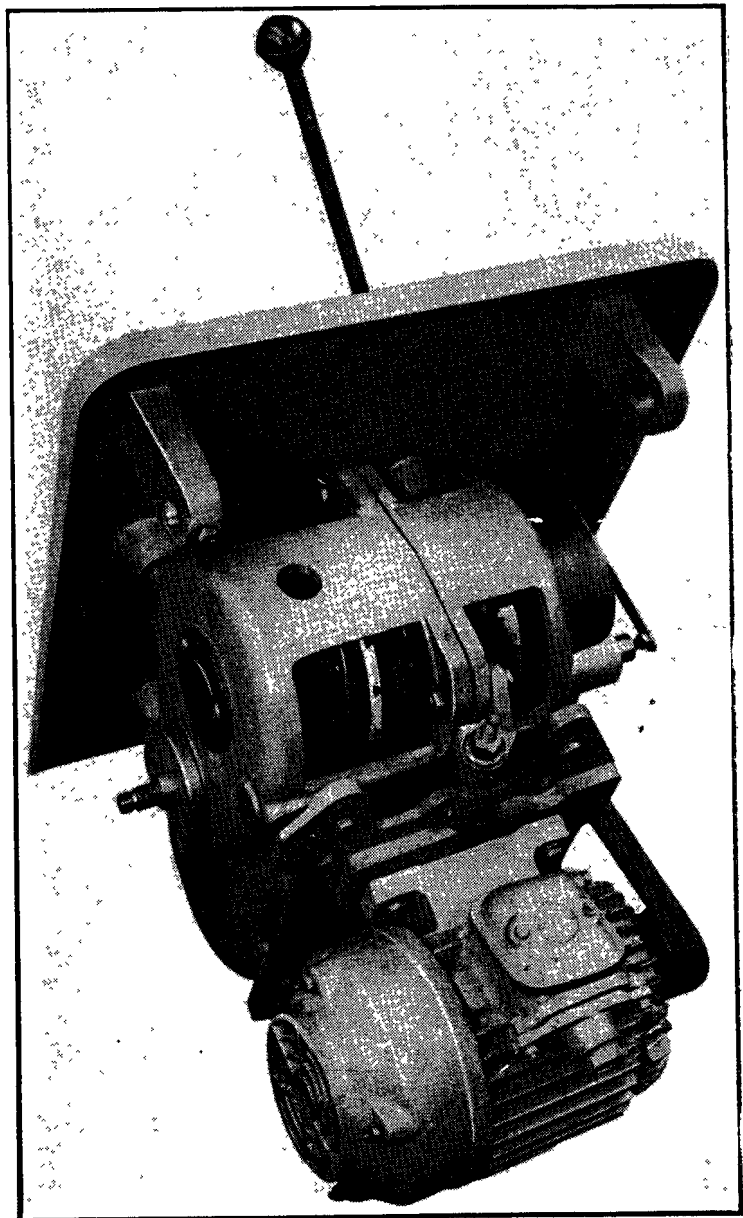

Fig. 42.
c) Remove the set screw on the face of the belt tension eccentric, and the set screw with a lock nut on one of the door brackets, inside the leg of the lathe (fig. 42);